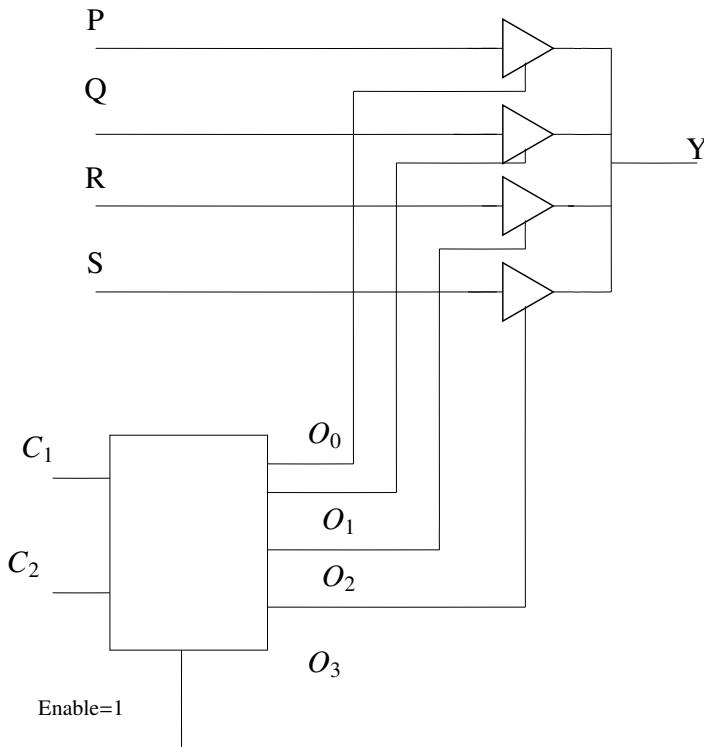

Fig. 3.31: Multiplexer
48. The functionality implemented by the circuit below in Fig. 3.31 is (GATE 2016 EC)